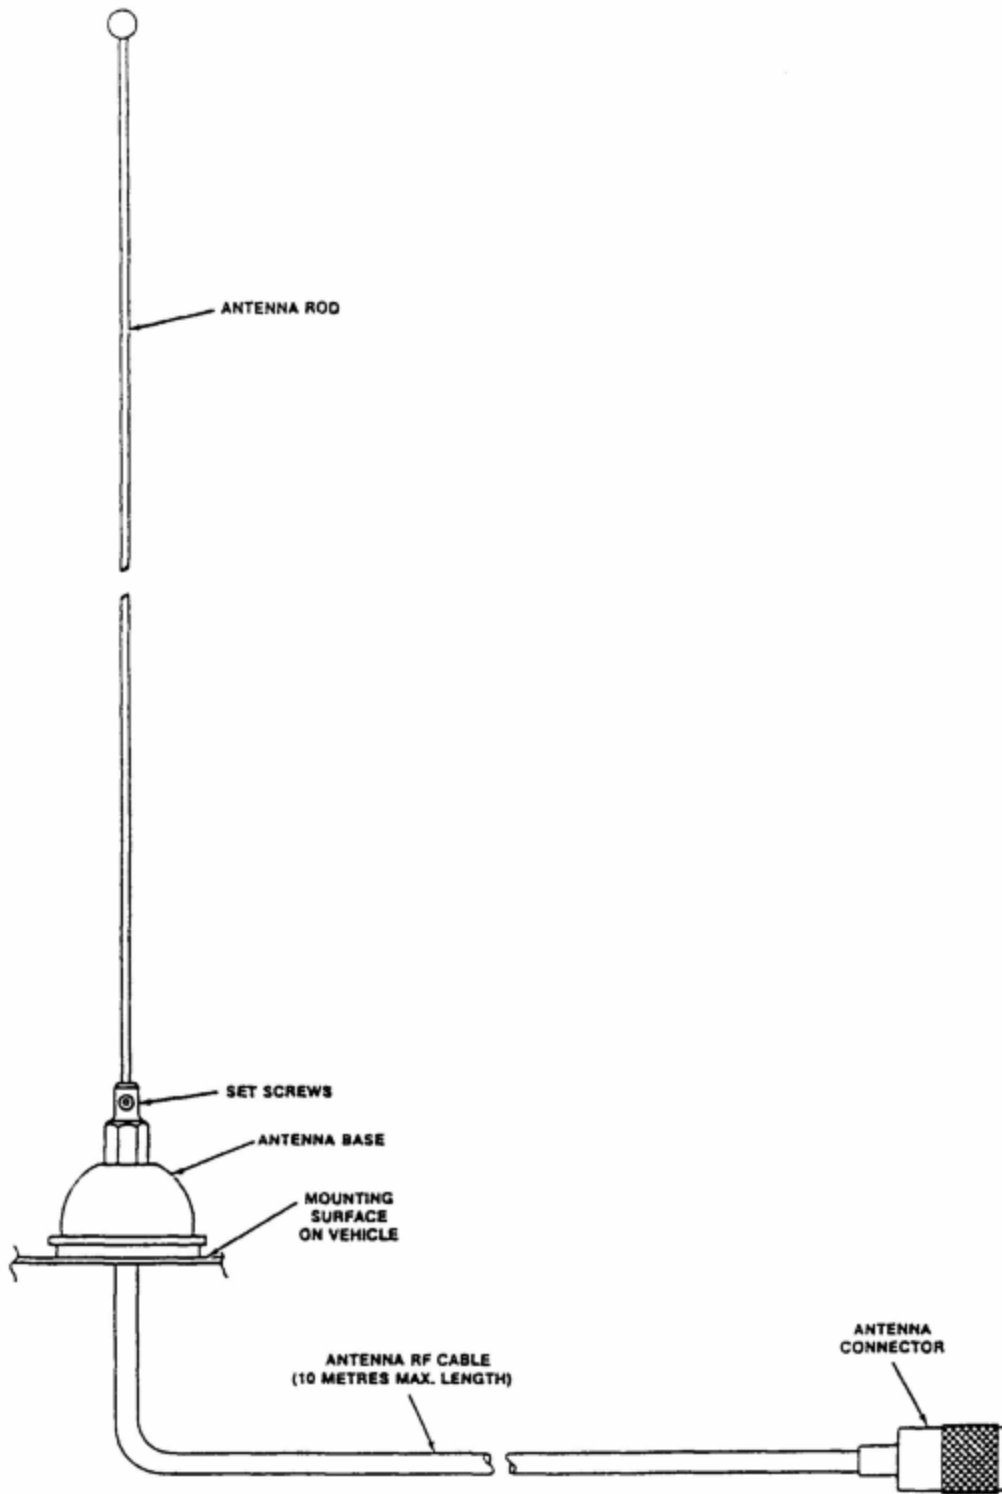

Figure 1.5 Antenna Assembly - General View
- (e) Antenna Assembly, Part Number 861910-1, is supplied complete as a kit which includes the following items: Antenna Base, which includes a mounting pad, together with a pad, braid nut, sleeve and clamp for termination of the antenna RF cable. The Antenna Rod is supplied with an Allen Wrench for adjustment of its set screws. The Antenna RF Cable is a ten metre length RG58/U coaxial cable terminated at one end by an UHF, male contact, connector which mates with the UHF, female contact, antenna connector located at the right-rear of the transceiver. The antenna may be mounted on any flat surface, roof, cowl, fender or rear deck of a vehicle, however, rooftop mounting is recommended for best performance. A general view of the antenna assembly is given in Figure 1.5.
Antenna Assembly, Part Number 861910-1, is supplied as a kit which includes an installation leaflet. The antenna is shown assembled in Figure 1.5.